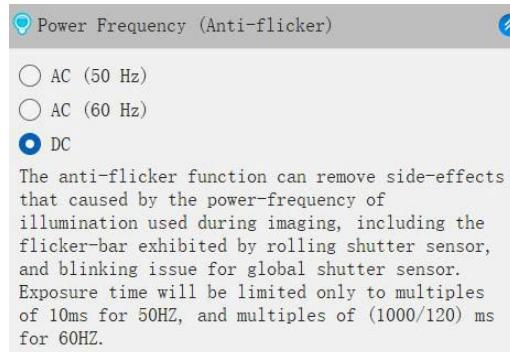

Figure 5-11 Example of ALTRAview LITE Light Source Frequency (anti-Flicker) Control Panel
The ALTRAview LITE light source frequency control panel is used to switch between AC (50Hz), AC (60Hz) and DC (DC) light source frequencies, as shown in Figure 5-11. It should be noted that the selection of light source frequency will affect the value of exposure time, and the relevant information is described in the text at the bottom of the panel.